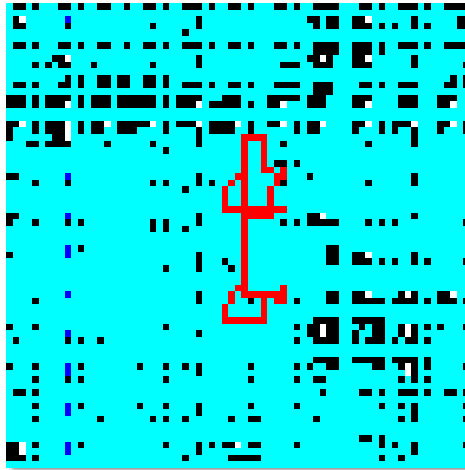

Figure 3.35. Selected Net of Interest
1. Click on a net of interest in one mode as shown in Figure 3.35.